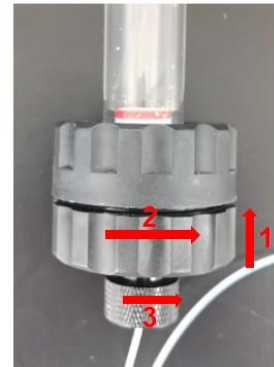

Figure 3.2 Installation of Bottom plungers
- a. Place the bottom plungers into the column tube vertically. See step 1 in figure 3.2.
- b. Tighten the bottom cover. See step 2 in figure 3.2.